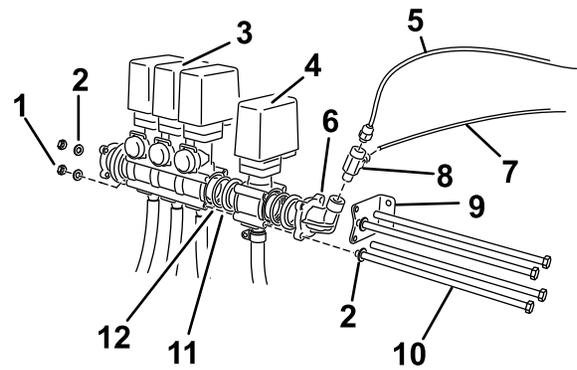

Figure 5
- Locate the hose reel valve assembly in loose parts and install in line with the existing valves (Figure 5).
- Reposition the bracket to the end valve assembly at the two holes on the elbow adapter closest to the boom valve mount bracket (Figure 5).
- Insert two long bolts (M8 X 260 mm) through the mount bracket, at the top and bottom holes in the valve bodies of the hose reel and the boom bypass valves closest to the mounting rail (Figure 5).
- Use the remaining two bolts (M8 X 260 mm) with existing washers to secure the valve assemblies at the open holes in the valve bodies (Figure 5)
- Install the tee fitting (Figure 5)